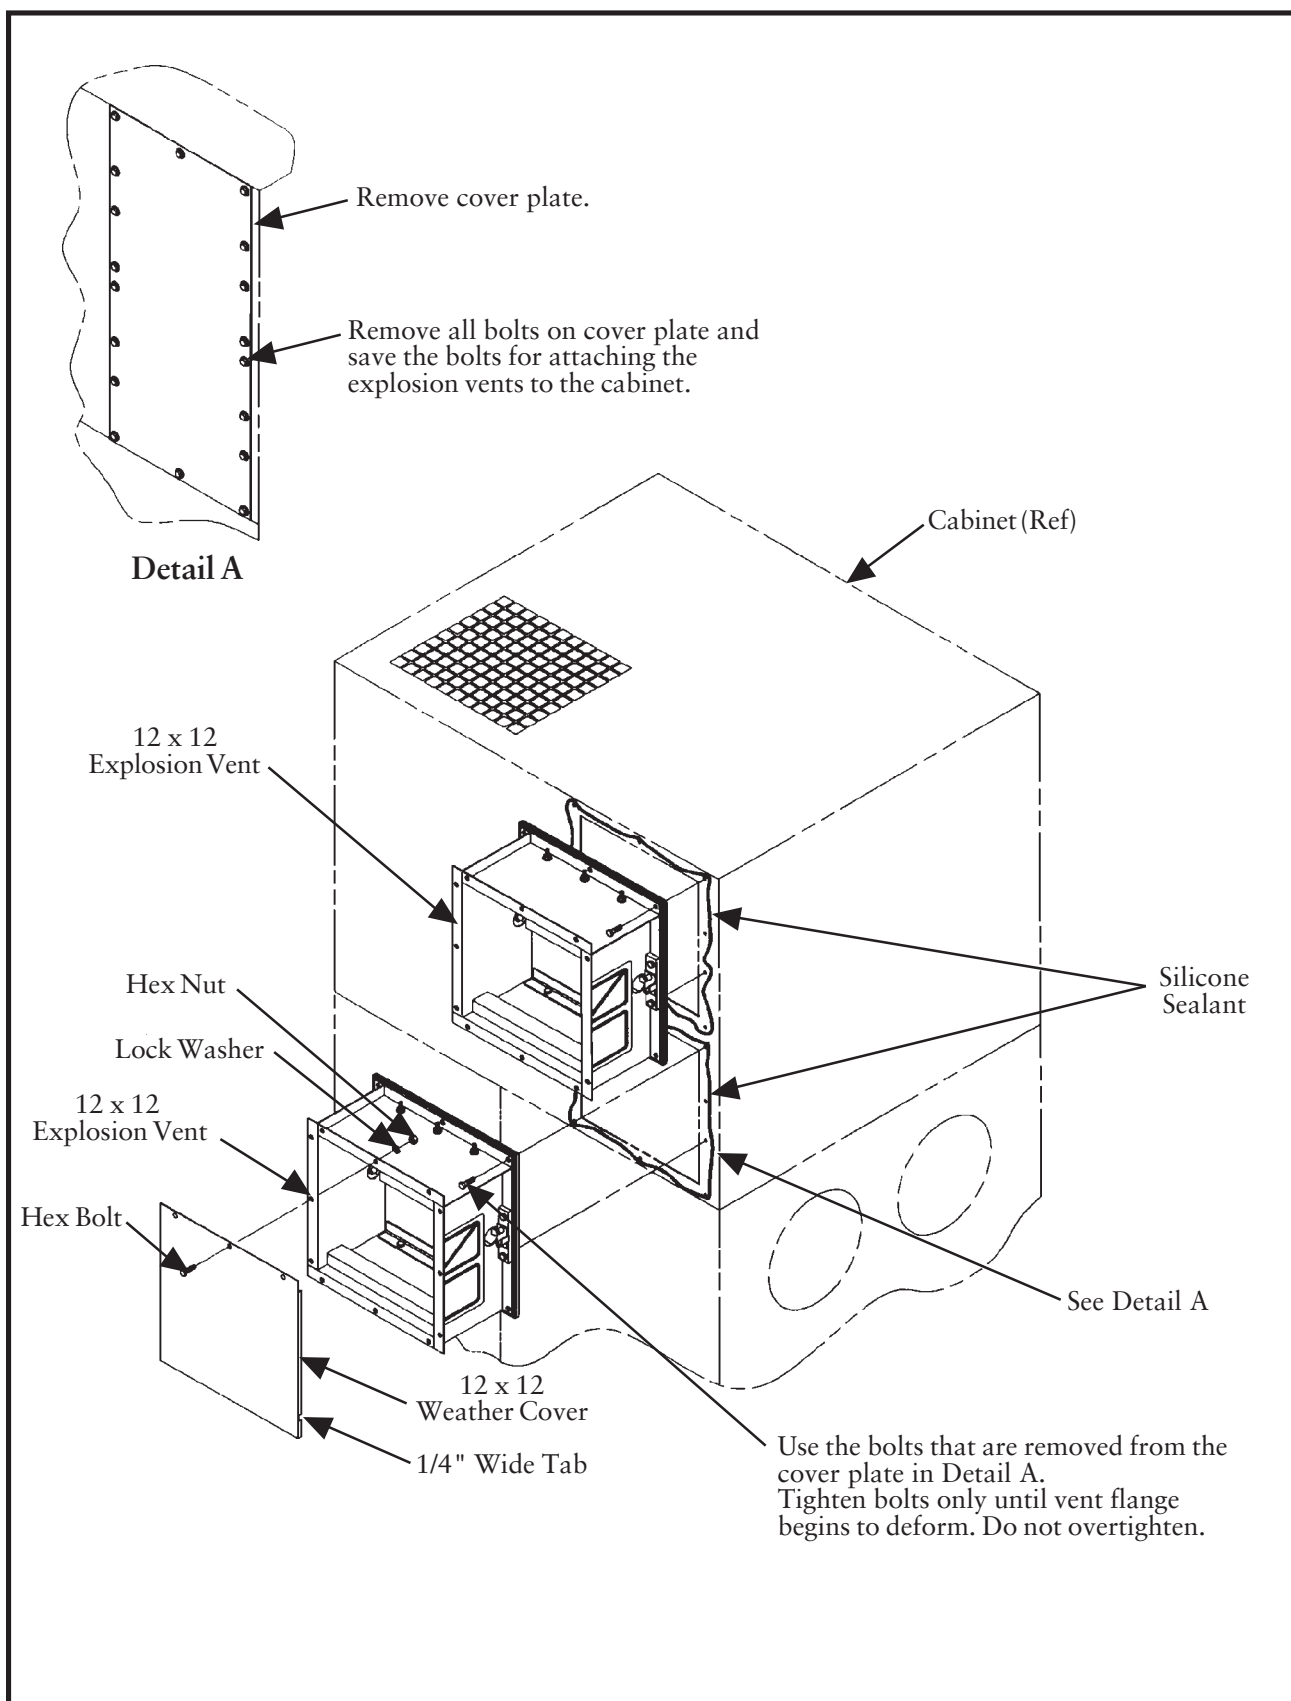

Figure 14
2.5.13 Explosion Vent Pack (See Figure 14 Explosion Vent Pack)
Remove the cover plate bolts and the cover plate from the side of the SDF cabinet. Using the same cover plate bolts, attach the 12 x 12 explosion vents to the side of the SDF cabinet. Be sure to apply silicone sealant between the bolted flanges and the cabinet, as shown in Figure 14 Explosion Vent Pack. Tighten the bolts only until the vent frame flange starts to bend. Do not overtighten.